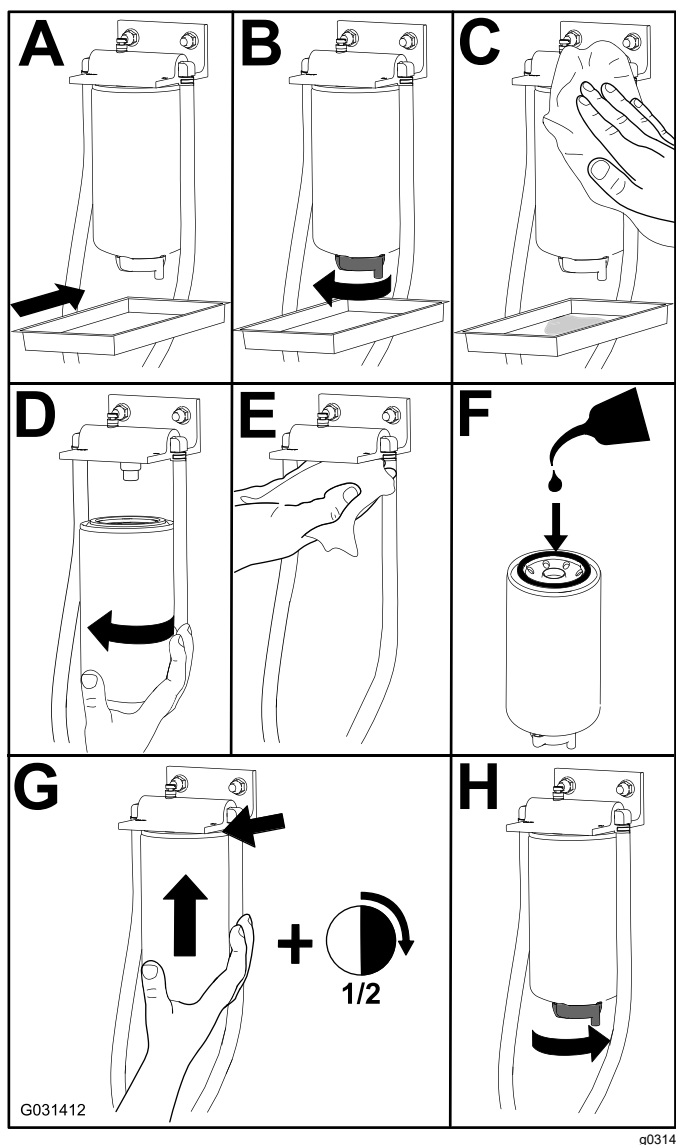

Figure 100
1. Replace the filter as shown in Figure 100.